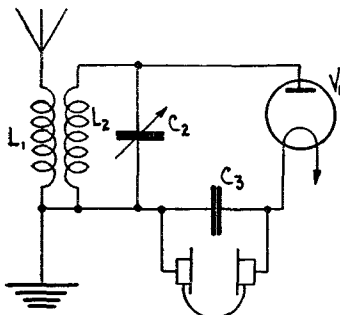
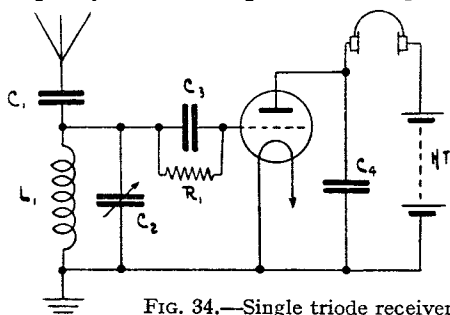

FIG. 31.—Elementary receiver for R/T or M.C.W.
FIG. 34.—Single triode receiver.
2. Elementary Receiver for R/T and M.C.W.—A very simple receiving circuit may be seen in fig. 31. The aerial circuit, consisting of the aerial's own inductance, capacity and resistance, is coupled by L_1 to L_2 , and the whole is tuned by C_2 . L_2 C_2 functions as a series tuned circuit, and possesses voltage magnification, so that a greater oscillatory voltage appears across C_2 than was originally picked up by the aerial. “Loose” coupling is employed between the aerial and L_2 C_2 , to reduce the “damping” imposed upon the circuit by the aerial resistance; thus selectivity is increased.
3. Single Triode Receiver for R/T and M.C.W. (fig. 34).—This functions in exactly the same manner as fig. 31, as regards its grid circuit (the resemblance can be noted in fig. 34A). But the A.F. voltages which appear across R_1 cause much larger A.F. currents to flow through the telephones than in the case of fig. 31, as the triode will also act as an amplifier.
4. C.W. Reception.—The circuit of fig. 31 is insufficient to receive C.W., because the amplitude of a C.W. signal does not vary at an audio-frequency. It is, therefore, necessary to introduce an A.F. component; this can be done by “heterodyning”, which produces an A.F. component by the interaction between the C.W. signal and a second applied R.F. voltage whose frequency differs from the C.W. frequency by an audio frequency (generally about 1 kc/s). There are two types of heterodyne:—